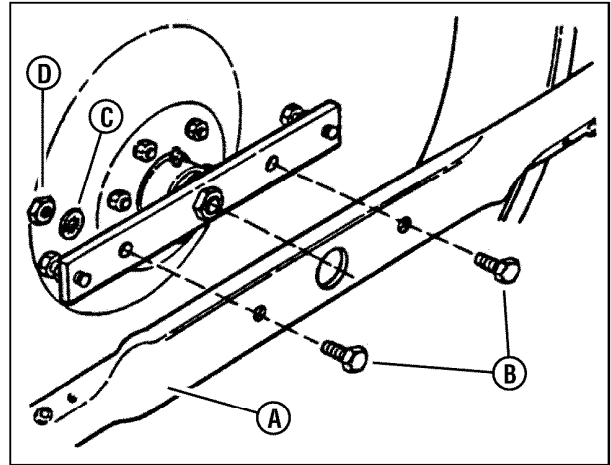

Figure 43: Removing the mower blade
4. Remove the bolts (B, Figure 43), washers (C) and nuts (D) securing the mower blade (A) to the spindle.